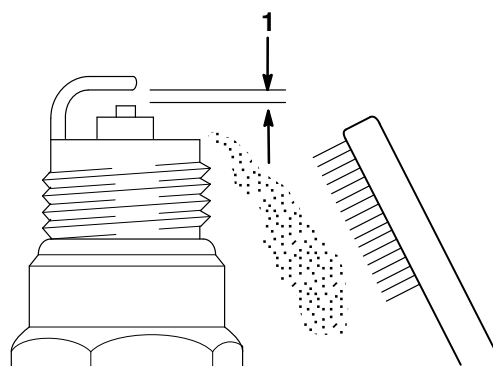

Figure 32
5. Clean the electrodes with a stiff brush (Fig. 32).
6. Adjust the electrode air gap to .024–.028 in. (0.6–0.7mm) (Fig. 32).